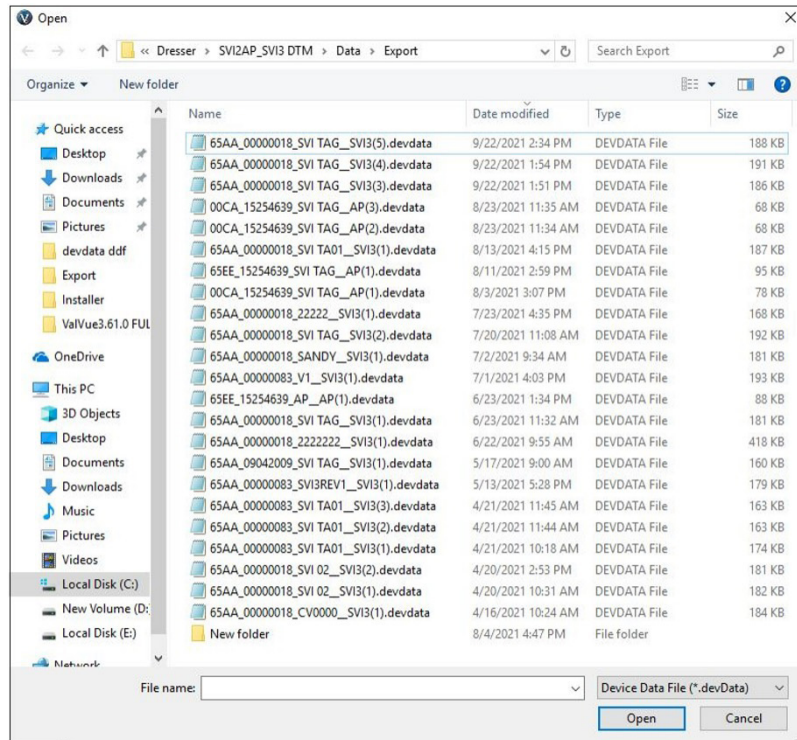

Figure 95 - Import Configuration: Open
1. Click **Import Configuration** button and Figure 95 appears.